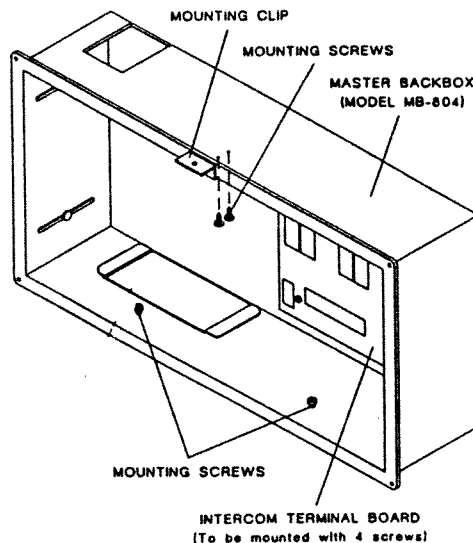

FIGURE 2a
- A) Install the upper mounting clip to the master backbox with the two #6 self tapping screws provided(See Figure 2a).
- B) Install the hinge mounting screws. Do not fasten them all the way down, the hinge will be fasten by these screws. (see figure 2a).
- C) Mount the intercom terminal board to the right side of the master backbox(MB-804) with four #6 self tapping screws (see figure 2a)